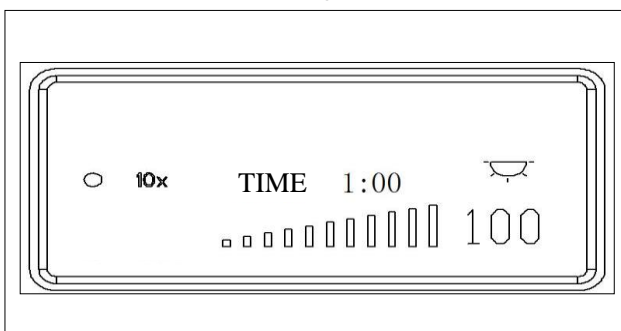

Fig.12
2. Press knob 3s: to select a set fixed time after sleep (Fig.12), the score grid value of time begins to beat, click the knob to change the hour grid value begins to beat. The increase or decrease time can be realized by turning the knob, and the score grid value is 1 minute; the maximum value can be set for 8 hours. After the required time, the time number beats three times after the stop beating is successful. Time starts to reduce the changes by points;